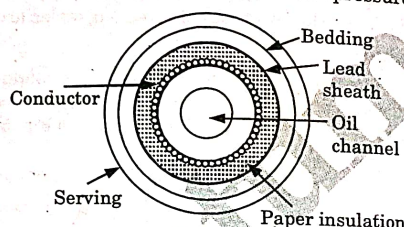

Fig. 5.14.5. Conductor channel single core oil filled cable.
2. Fig. 5.14.5 shows the construction of single core oil filled cable. It consists of concentric stranded conductor but built around a hollow cylindrical steel spiral core.